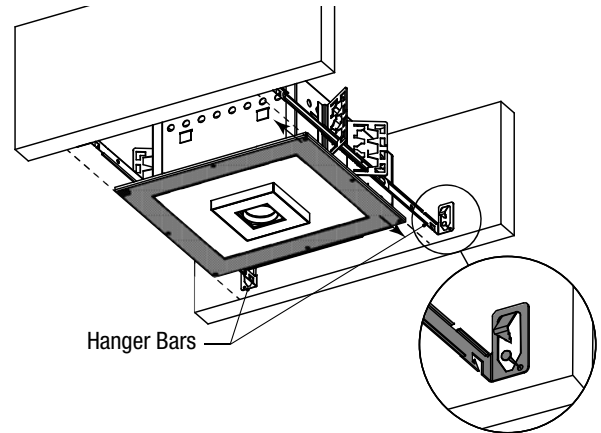

FIGURE 2
Step 1. Extend HANGER BARS to fit between joist and position mounting tab tight to bottom of joist or frame member **Fig 2**. Hanger bars should be level with bottom of joist or frame member. **See Detail 2A.**